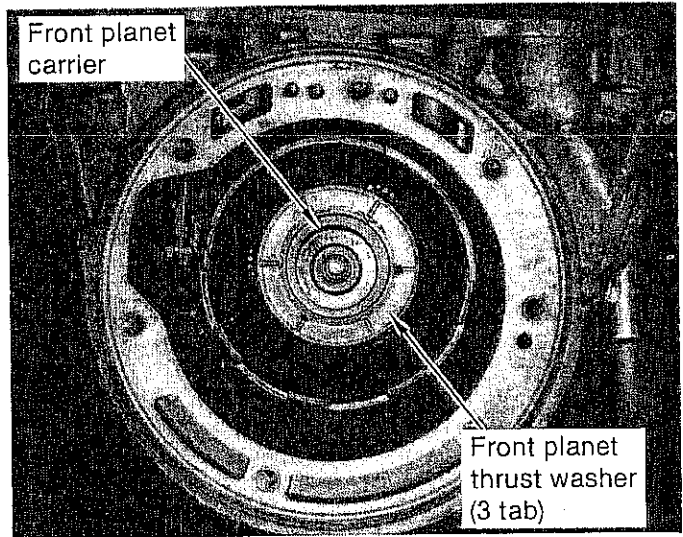
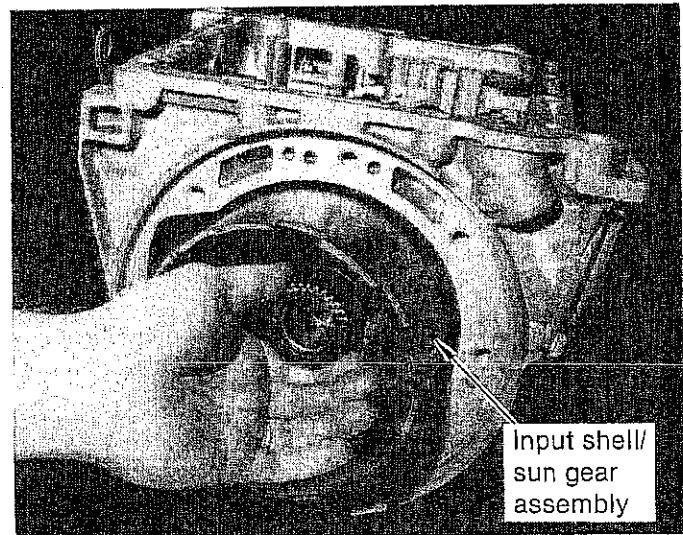

FIGURE 12
FIGURE 13
STEP 8. Remove the three-tab front planet thrust washer if it did not come out with the forward clutch hub. (See Fig. 12) Remove the front planetary carrier. The needle bearing race inside the rear of the planetary may come out. The bearing cannot be removed. Remove the input shell/sun gear assembly. (See Fig. 13) The four-tab reverse planet thrust washer will probably be stuck to the back side of the input shell. Put all thrust washers and bearing race in the oil pan.